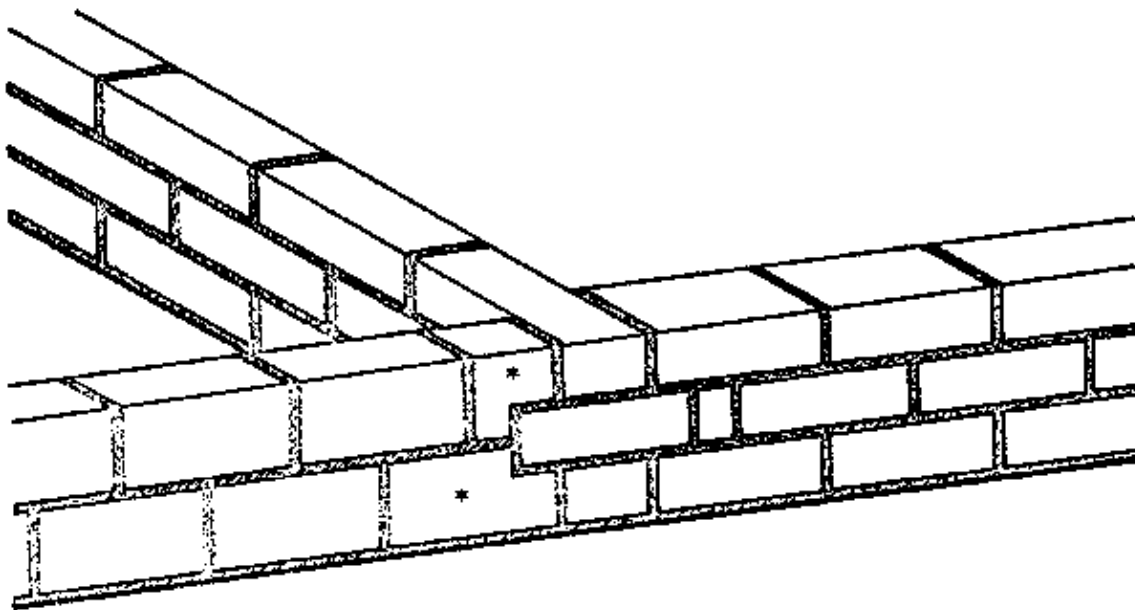

Fig. 1 SITUATION "A" – COMMON BLOCKS, OUTSIDE FLUSH
– SITUATION "A", COMMON BLOCKS, OUTSIDE FLUSH: As with the corner bond using common blocks (previous page), this bonding problem can only be solved by shaping the first blocks of both courses of the thin wall so that the second course of the thick wall can be bonded (Fig. 1). This requires precise and careful cutting.